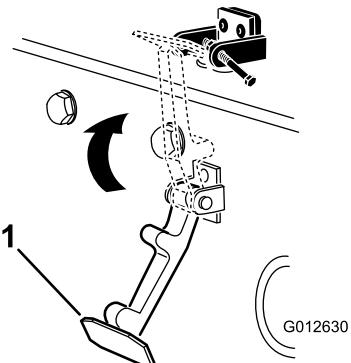

Figure 15
6. Hook the latch onto the hood-latch bracket (Figure 15).